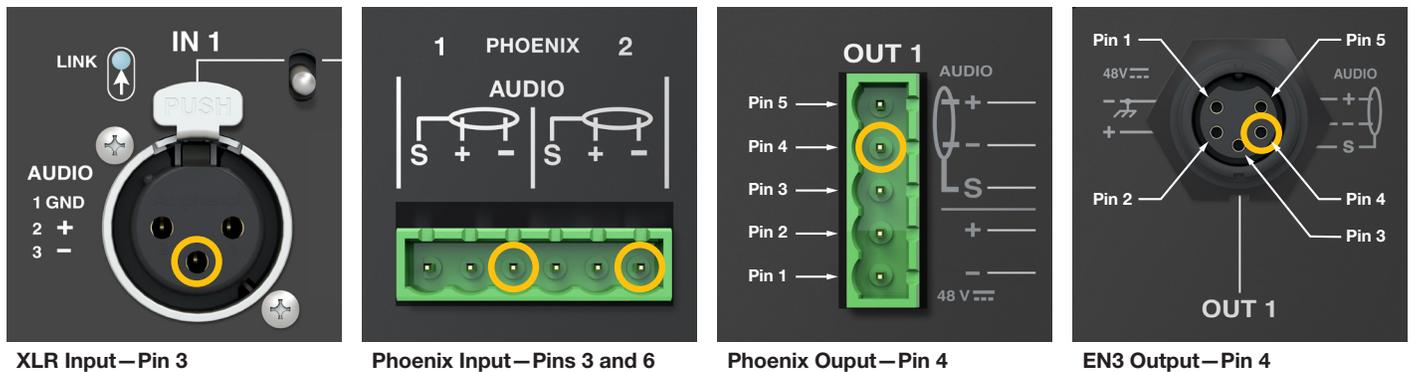

Figure 8: Audio (-) Locations on Power Supply Input and Output Connectors
2. **Audio (-)** of the **Input Connector** and **Audio (-)** of the **Output Connector** (Figure 8).